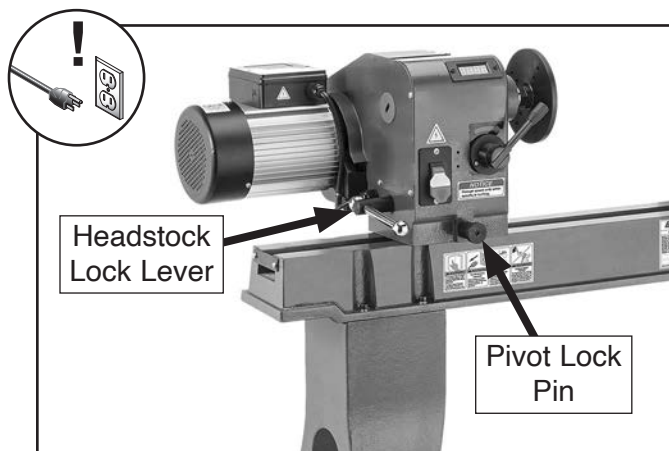
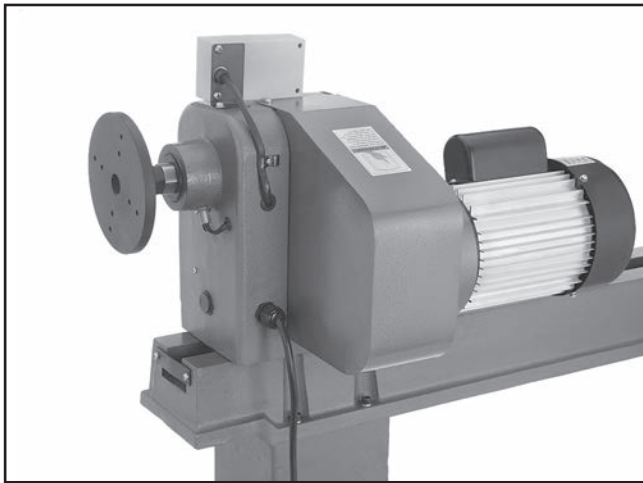

Figure 33. Lock and pivot controls.
Figure 34. Example of headstock set at 180°.
2. Loosen headstock lock lever (see **Figure 33**), position headstock at end of lathe bed, and tighten to secure.
3. Pull pivot lock pin (see **Figure 33** on **Page 31**), rotate headstock to 90 or 180 degrees (see **Figure 34**), and push pivot lock pin back into lock position.